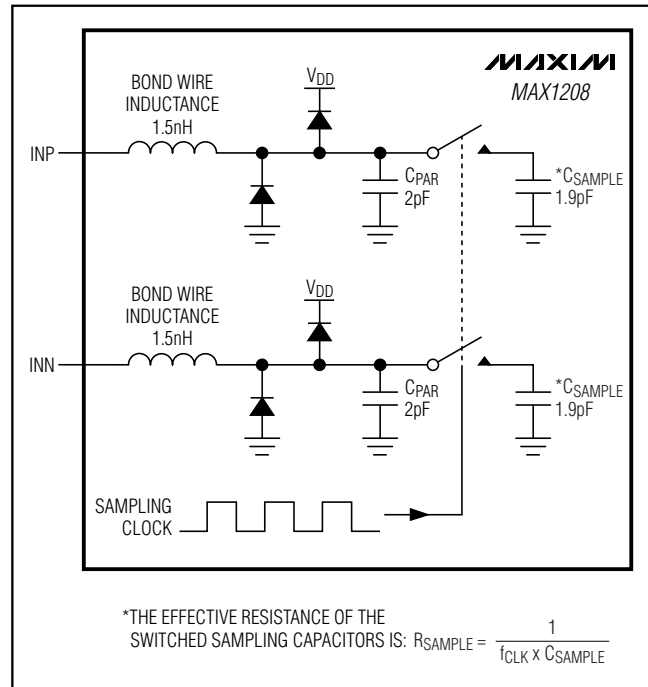
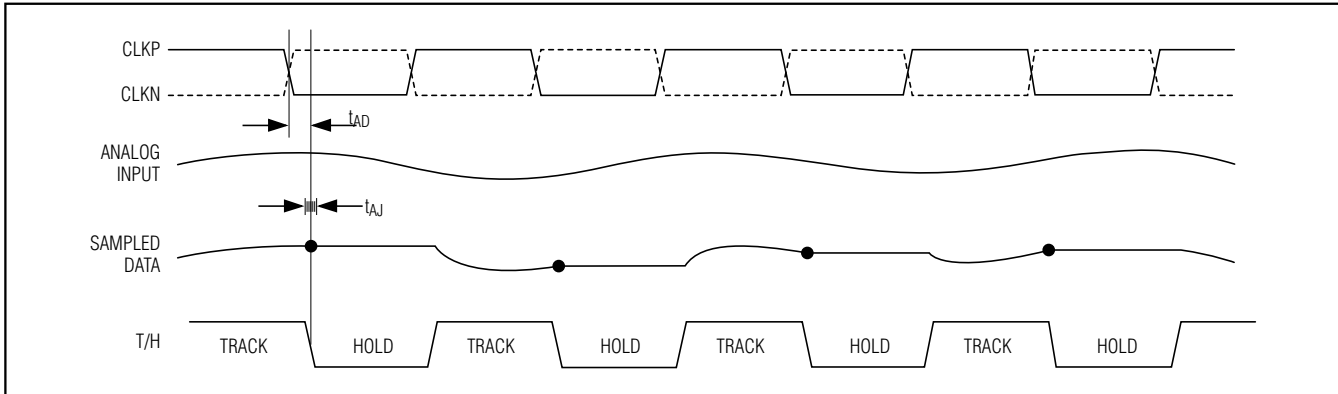

Figure 3. Simplified Input Track-and-Hold Circuit
Figure 4. T/H Aperture Timing
Figure 3 displays a simplified functional diagram of the input T/H circuit. This input T/H circuit allows for high analog input frequencies up to 70MHz and supports a common-mode input voltage of $V_{DD} / 2 \pm 0.5V$.
The MAX1208 sampling clock controls the ADC's switched-capacitor T/H architecture (Figure 3), allowing the analog input signal to be stored as charge on the sampling capacitors. These switches are closed (track) when the sampling clock is high and open (hold) when the sampling clock is low (Figure 4). The analog input signal source must be capable of providing the dynamic current necessary to charge and discharge the sampling capacitors. To avoid signal degradation, these
- INP, INN analog inputs are disconnected from the internal input amplifier (Figure 3).